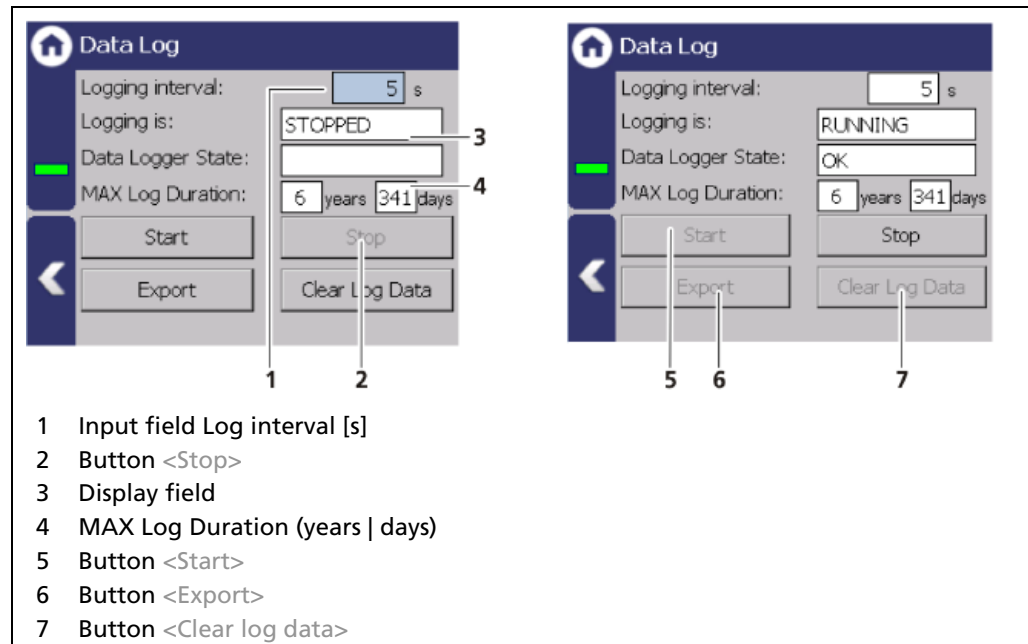

Fig. 128 Data Log
1. Click on the button <Stop> (Fig. 128, item 2) if the data log is running.
2. Click on the input field "Log interval" (Fig. 128, item 7) and enter the time in seconds.
4. Click on the button <Start> (Fig. 128, item 4) to start the data log process.
2. Click on the button <Clear Log Data> (Fig. 128, item 7).
1. Click on the button <Stop> (Fig. 128, item 2) to stop the data log process.
3. Click on the button <Export> (Fig. 128, item 5).